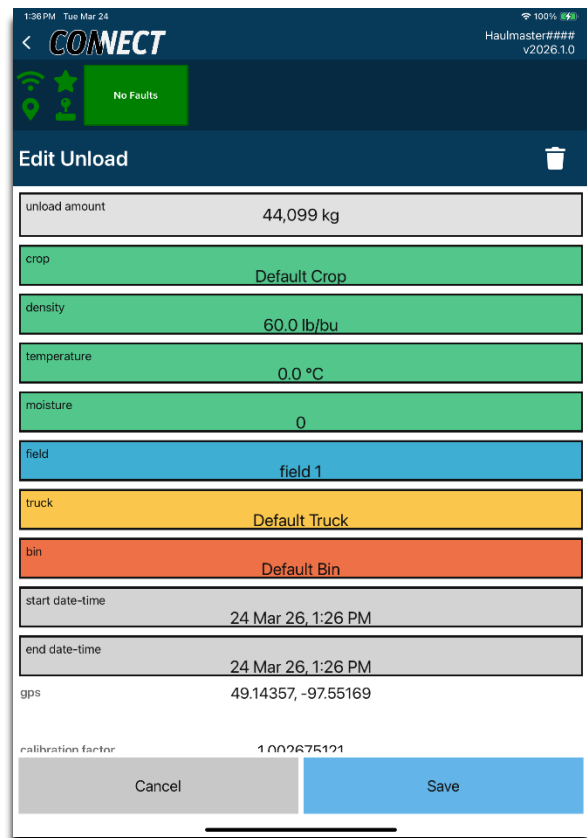

Figure 173 Edit Unload
1. Press the truck shown in Figure 173.